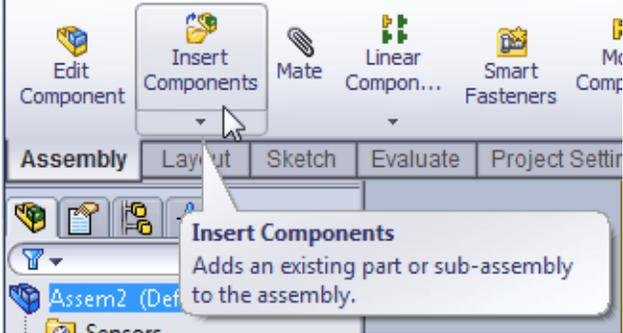

Figure 56 Clicking Insert Components on the Assembly toolbar of the CommandManager
- 3 Click the **Insert Components** tool on the **Assembly** toolbar of the CommandManager. See Figure 56.